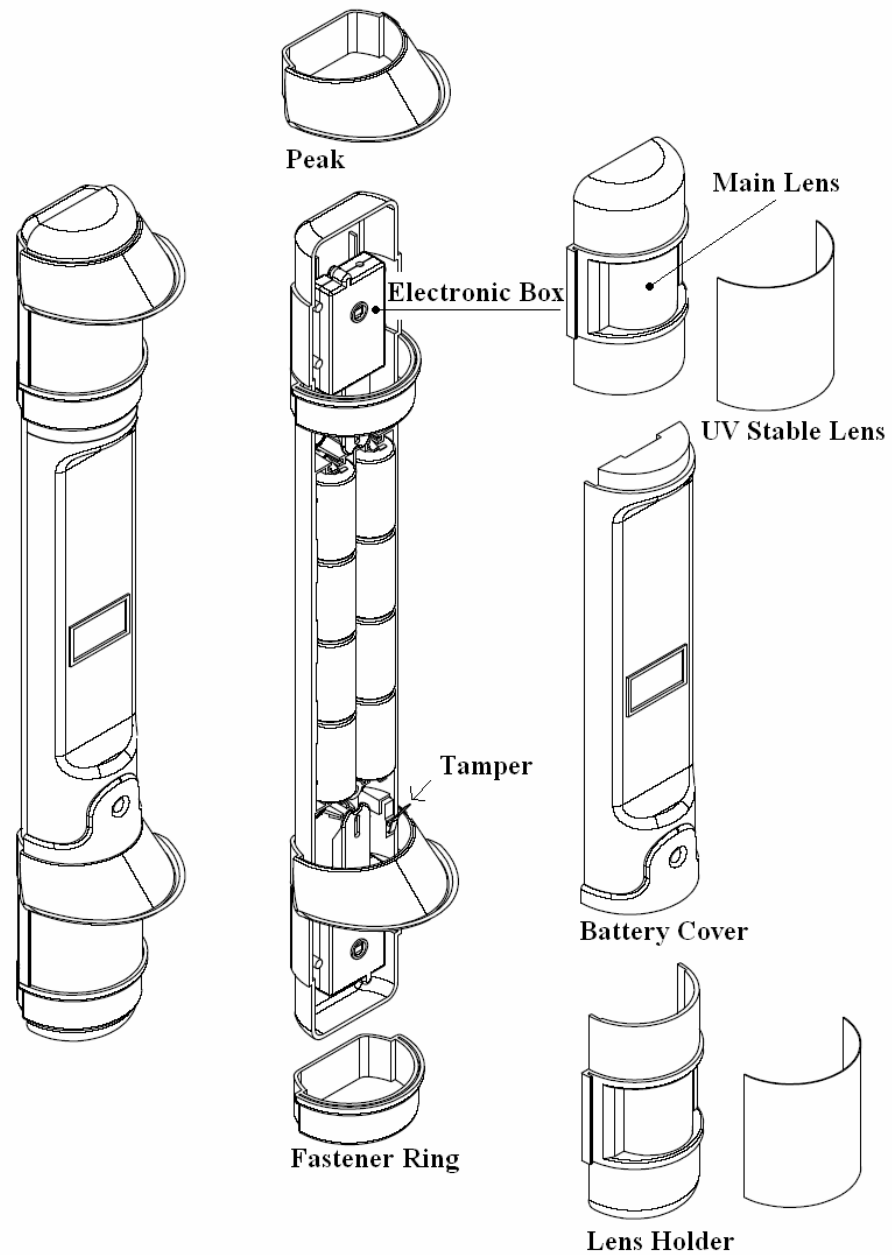

Fig 4: Roboguard 5 – Exploded View.
- A) To access the lenses, slide the Peak off the top of the unit and the Fastener Ring off the bottom of the unit. (*see fig 4*)